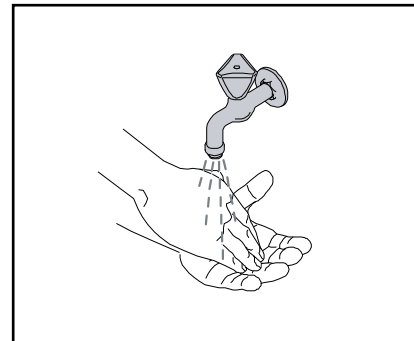

Fig. 3
1. Wash your hands before touching a product pack (fig. 3).